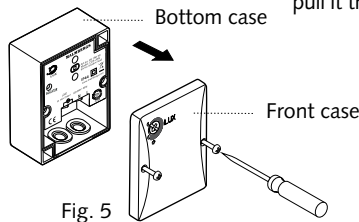

Fig. 5
1. Unscrew the front case (See Fig. 5).